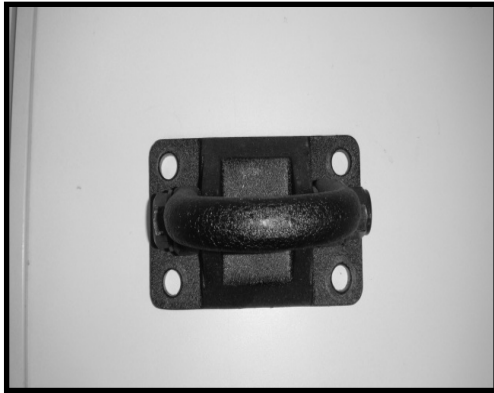
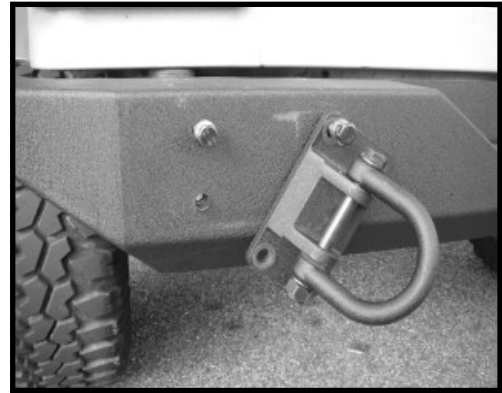

Figure 19.
Figure 20.
14. Attach bumper to sub-frames using D-Rings. Place a D-Ring in front of you and look at the mounting holes. The wider set of holes is the top (Figure 19). Locate the top right corner of the D-Ring and place a supplied M12 x 60 bolt and washer through the D-Ring and thread into the bumper and sub-frame (Figure 20).